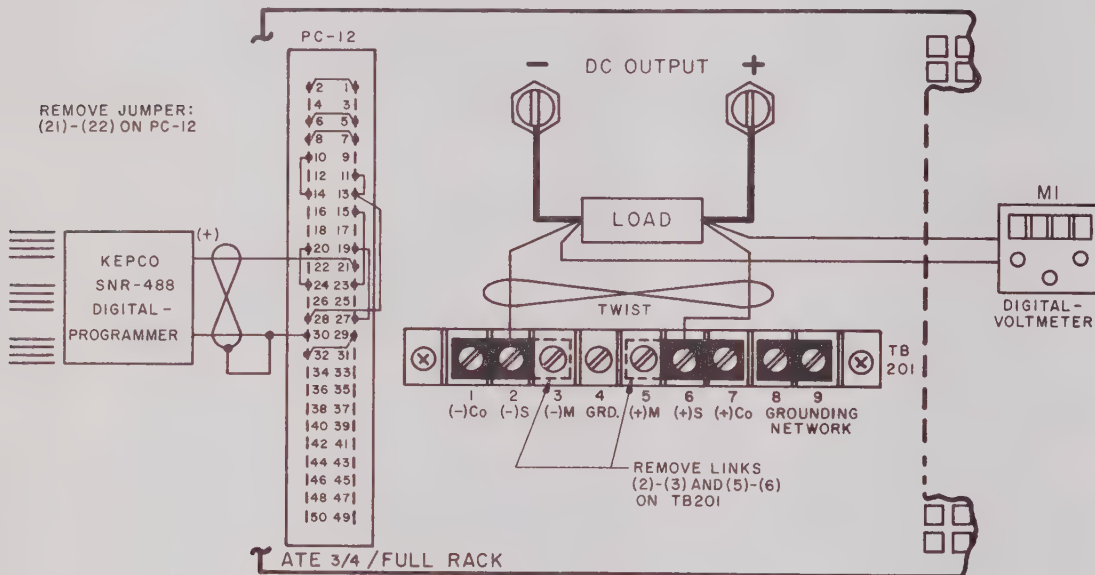

FIG. 3-6 OUTPUT VOLTAGE CONTROL WITH AN EXTERNAL (0-10V, 1 mA) D-C CONTROL SIGNAL.
- 3-38 GENERAL. The ATE output voltage which is controlled by a front panel VOLTAGE CONTROL in the Local control mode, can be remotely controlled by disconnecting the internal VOLTAGE CONTROL AMPL at the REAR PROGRAMMING CONNECTOR (PC-12) and substituting an external control signal at the input of the VOLTAGE COMPARISON AMPL with reference to the PROGRAMMING COMMON. For this "direct drive" method of voltage control, the control signal must be a positive going 0–10 volt d-c voltage source, able to supply at least 1 mA of control current. An application, demonstrating this control method is described in PAR. 3-41, and illustrated in FIG. 3-6.
- 1) Connect the EXT. CONTROL VOLTAGE, (SN-488 DIGITAL PROGRAMMER), the LOAD and the PRECISION VOLTMETER (M1) to the ATE as shown in FIG. 3-6.